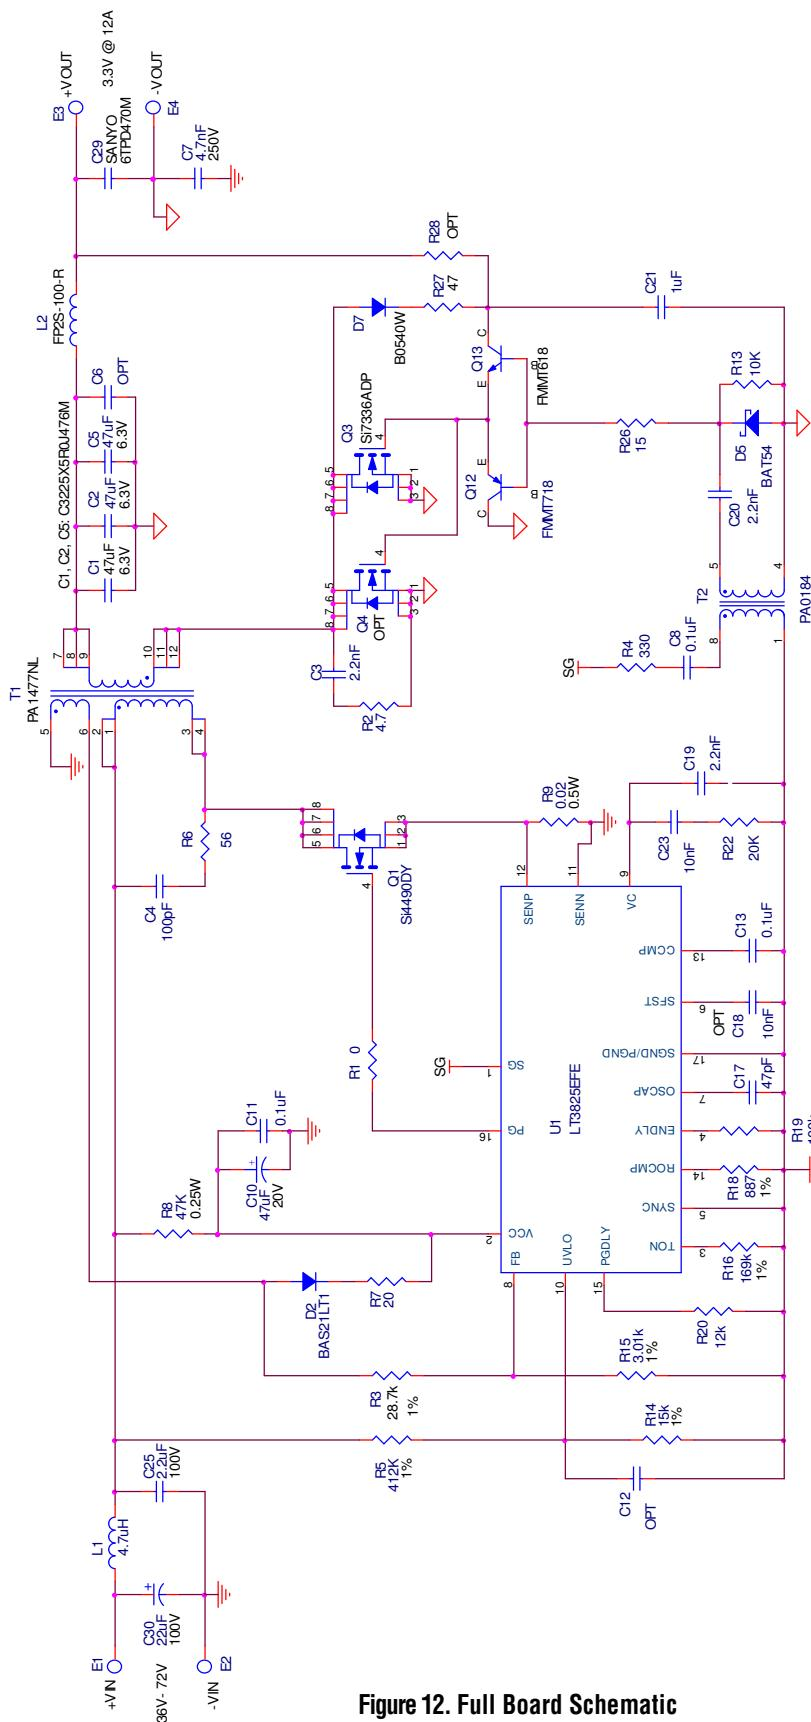

Figure 12. Full Board Schematic
The LT3825 controller exhibits a self-starting capability. When an input voltage is applied, a trickle charge resistor, R8, charges C10 (See Figure 12) to power Vcc. Then, the IC begins a controlled soft-start of the output voltage. As this voltage begins to rise, Vcc power is quickly taken over by T1, D2, and R7. When the soft-start period is over, the LT3825 then regulates output voltage by observing the pulses across the auxiliary winding of T1 during the flyback time. The Primary Gate drive (PG) and Synchronous Gate drive (SG) is then Pulse Width Modulated (PWM) in